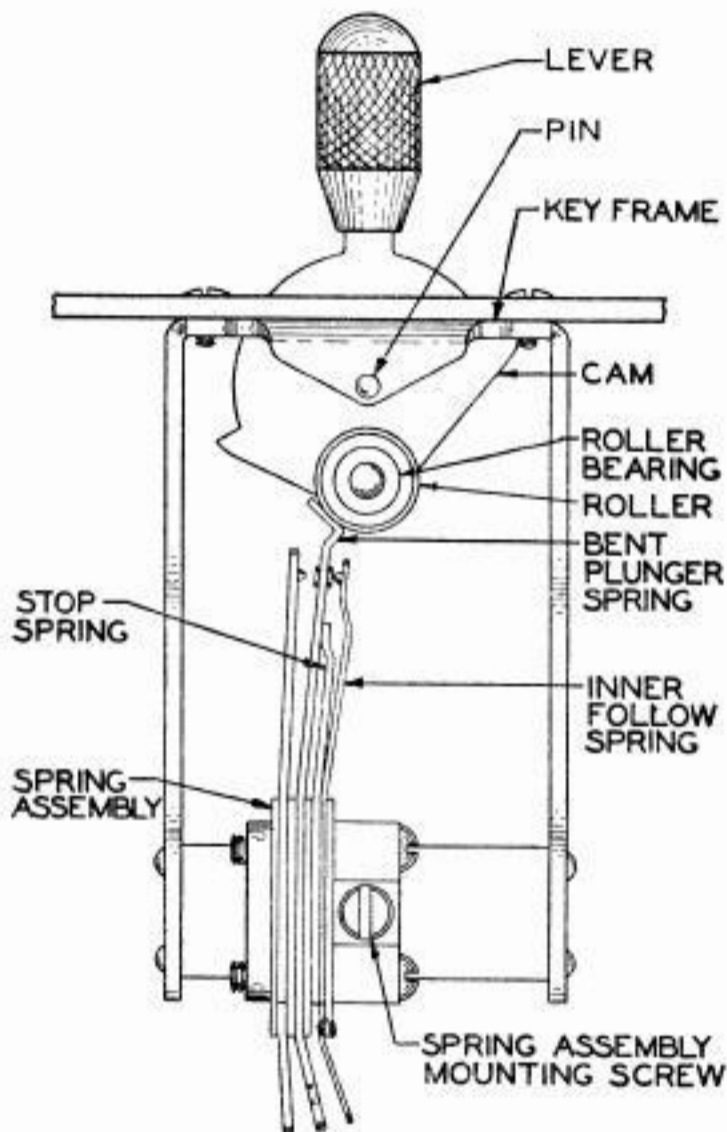

Fig. 2
4.01 **Rollers** shall turn freely on their bearings. When the lever is released slowly from the operated position, it shall return to the unoperated position by the pressure exerted by the springs. See Fig. 2 for location of parts. **Fig. 2**